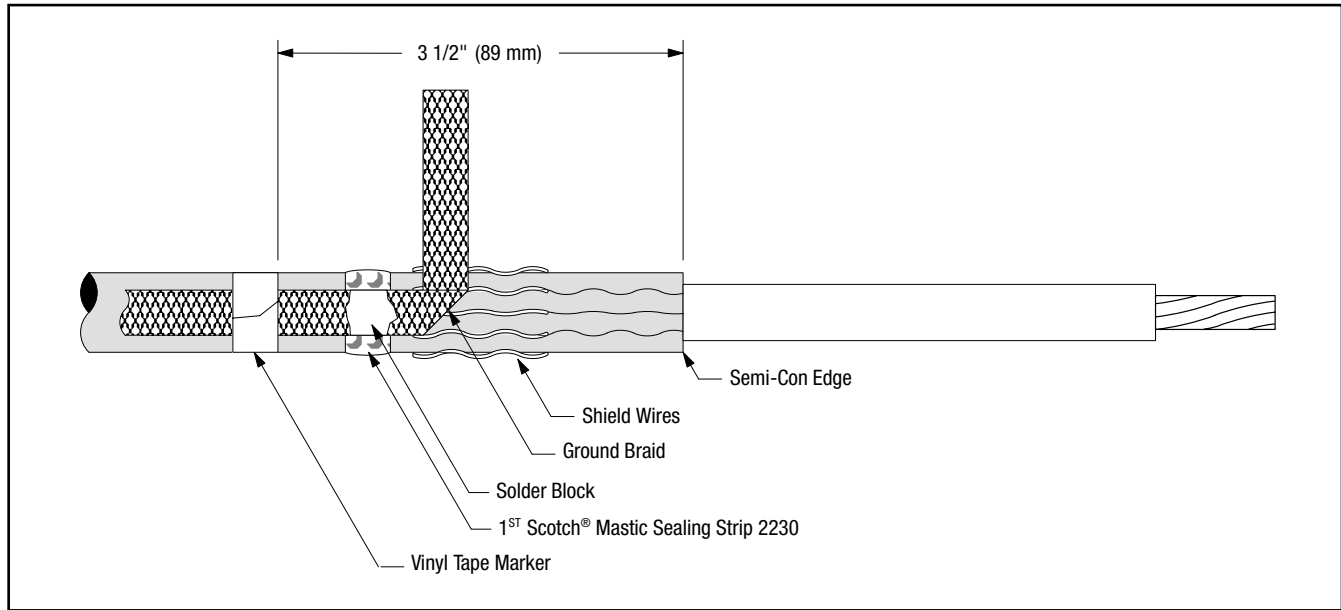

Figure 19
13.2 Position pre-formed ground braid with short tail directly over cut edge of folded back shield wires. Position long tail of ground braid, extending over cable semi-conductive jacket with solder block over mastic strip (*Figure 19*). Secure ground braid to cable semi-conductive jacket 3 1/2" (89 mm) from cable semi-con edge using vinyl tape (*Figure 19*).